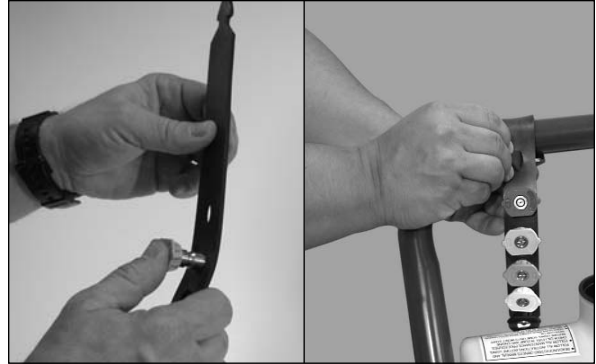

Figure 9 - Insert spray tips into the rubber tip holder
- 9. Install quick connect tips to tip holder and secure to the pressure washer handle. See Figure 9.